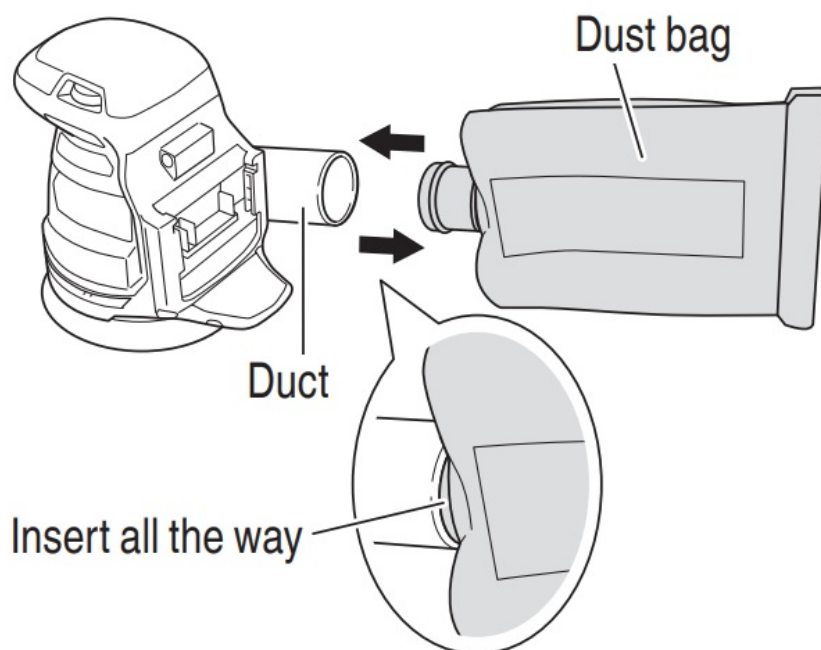

Fig. 8
4. Attaching and Removing the Dust bag (Fig. 8)